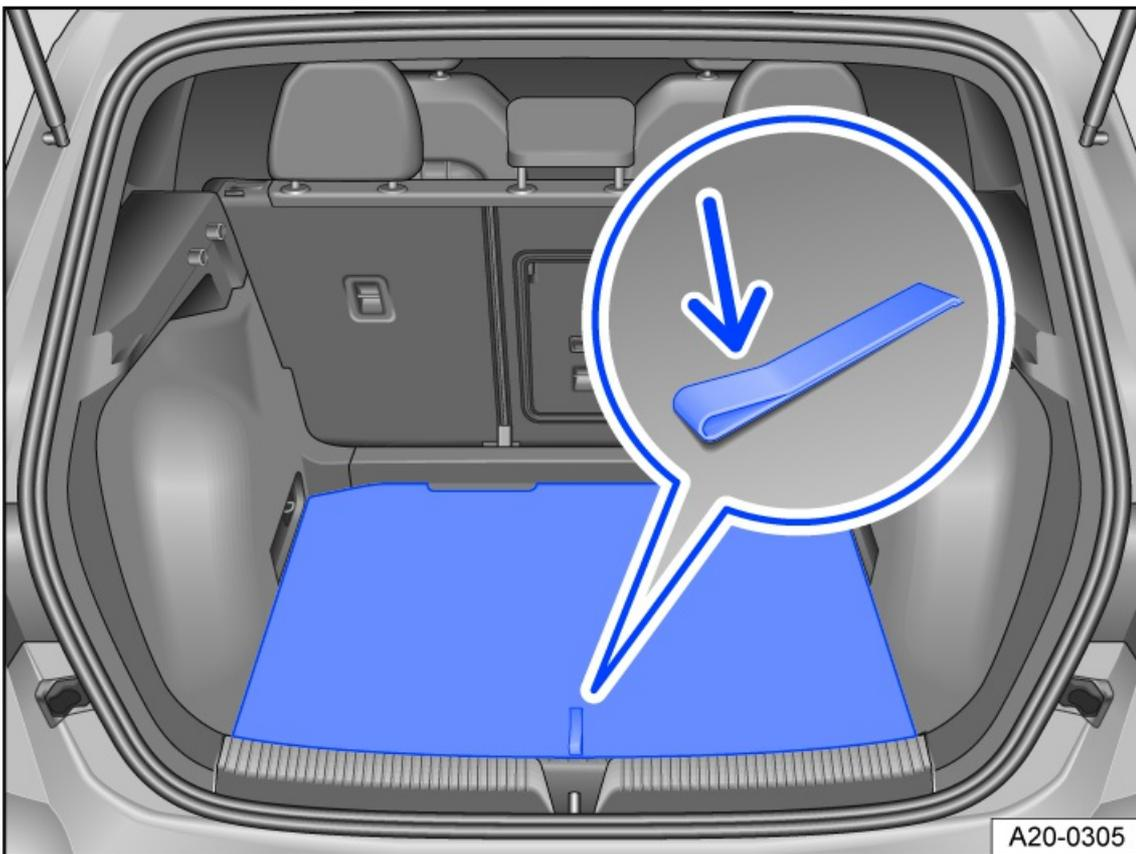

Fig. 137 In the luggage compartment: opening the luggage compartment floor.
1. Grasp the opening or tab in the luggage compartment floor *fig. 137* (arrow) and lift the luggage compartment floor.